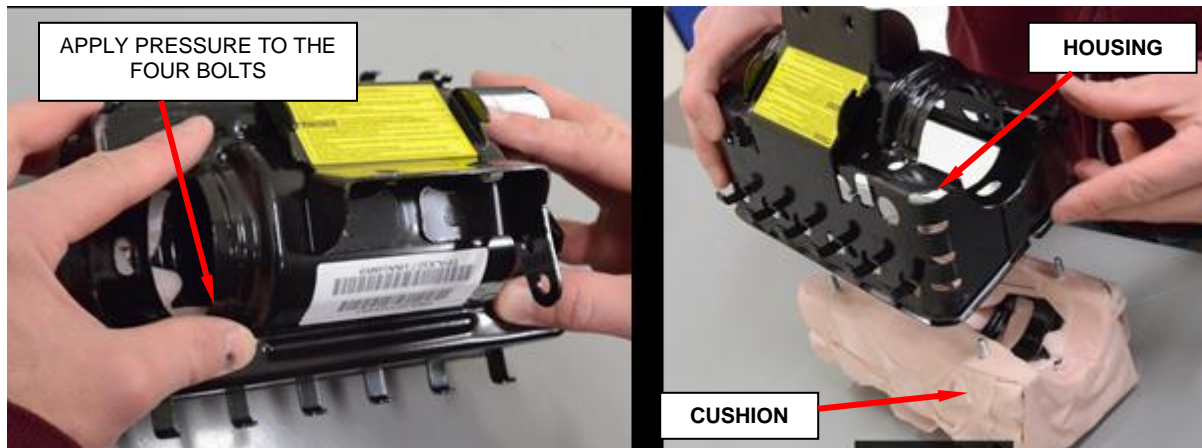

Figure 109 – Remove Airbag Cushion from Housing
- h. Remove airbag cushion from housing by applying pressure to the bolts, set cushion aside (Figure 109).